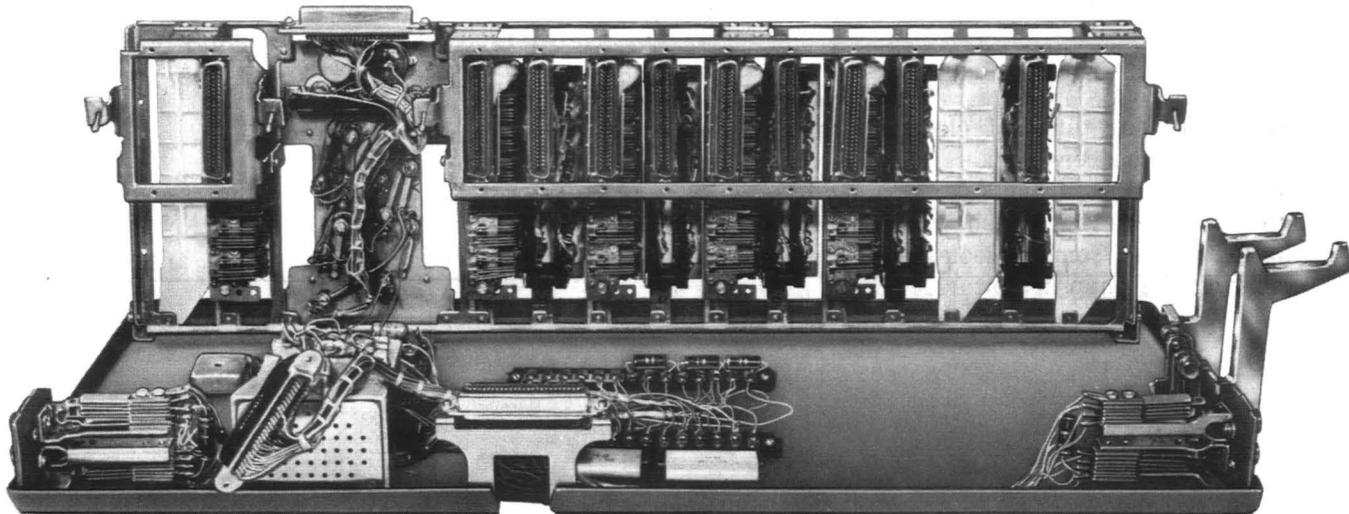

Fig. 7—Typical Console, Less Cord
- (3) Remove screws holding key frame assembly to base of set and swing the assembly up (Fig. 7).